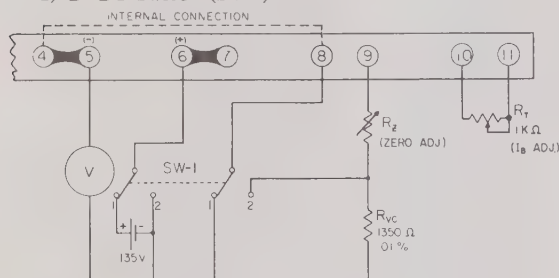

FIG. 3-3 PROGRAMMING RATIO CALIBRATION, METHOD #2
- a) Connect calibration set-up as shown in Fig. 3-3.